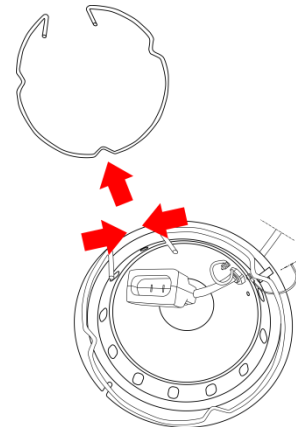

Fig. 04
- 03) Remove the fixation ring by pressing it together (Fig. 04).